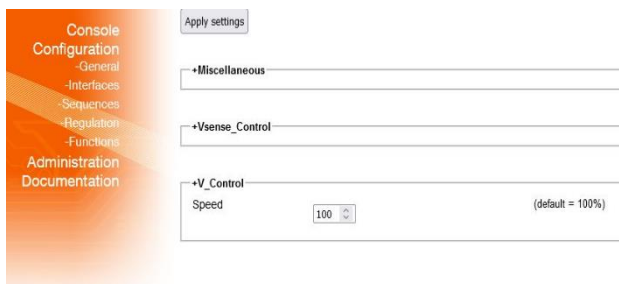

Figure 7.15: Reducing CV-control speed
- Use the Web-interface to adjust the CV-control speed, go to 'Configuration', 'Regulation', reduce the setting from 100% to a lower value and apply settings, see Figure 7.15.